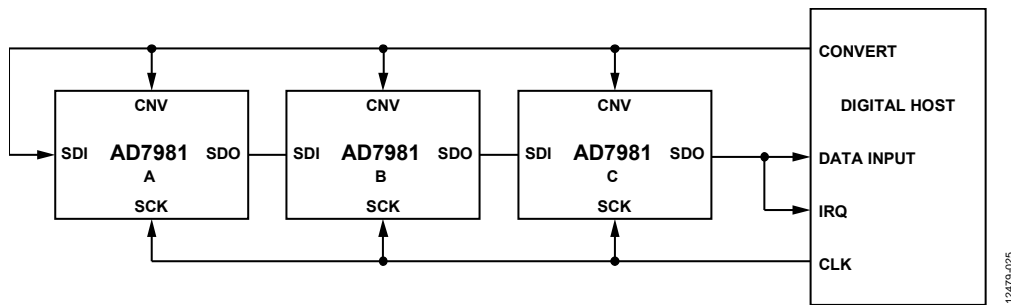
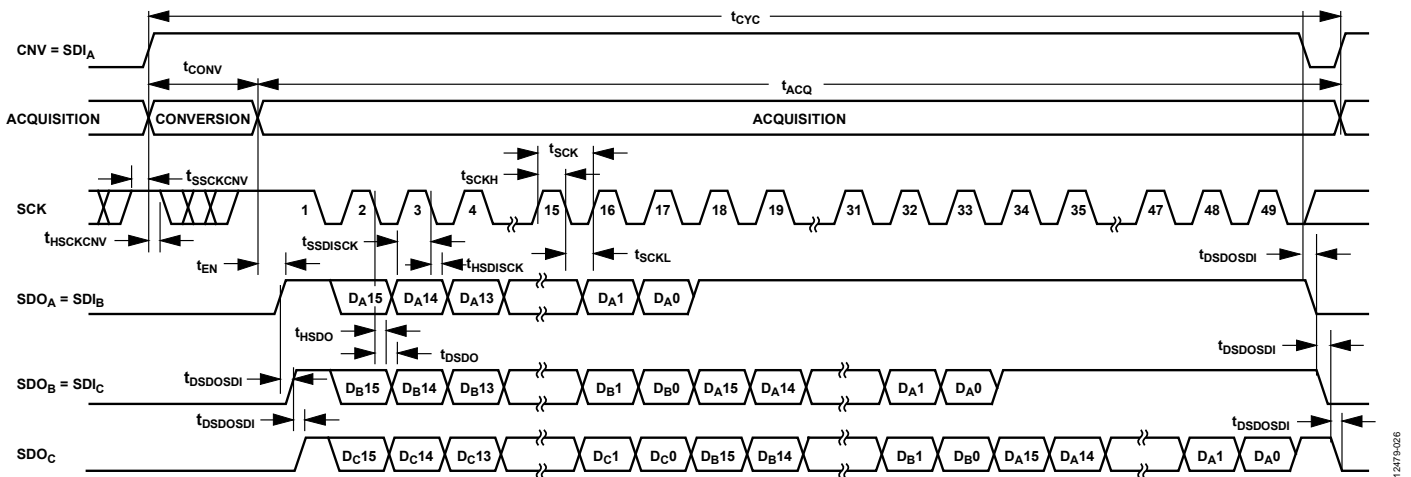

Figure 52. Chain Mode with Busy Indicator Connection Diagram
Figure 53. Chain Mode with Busy Indicator Serial Interface Timing
- In chain mode if SCK is high during the CNV rising edge (see Figure 53).
A connection diagram example using three AD7981 devices is shown in Figure 52, and the corresponding timing is given in Figure 53.
data readback. When all ADCs in the chain have completed their conversions, the SDO pin of the ADC closest to the digital host (see the AD7981 ADC labeled C in Figure 52) is driven high. This transition on SDO can be used as a busy indicator to trigger the data readback controlled by the digital host. The AD7981 then enters the acquisition phase and powers down. The data bits stored in the internal shift register are clocked out, MSB first, by subsequent SCK falling edges. For each ADC, SDI feeds the input of the internal shift register and is clocked by the SCK falling edge. Each ADC in the chain outputs its data MSB first, and $16 \times N + 1$ clocks are required to read back the N ADCs. Although the rising edge captures the data, a digital host using the SCK falling edge allows a faster reading rate and, consequently, more AD7981 devices in the chain, provided the digital host has an acceptable hold time.